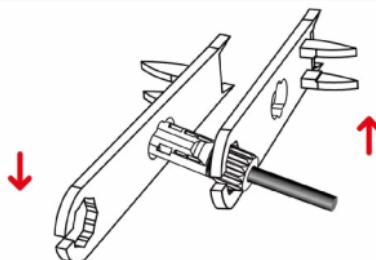

Figure 5.13 Locking connectors
**Step 4** Tighten the locking nuts on the positive and negative connectors using a removal wrench, as shown in **Figure 5.13**.